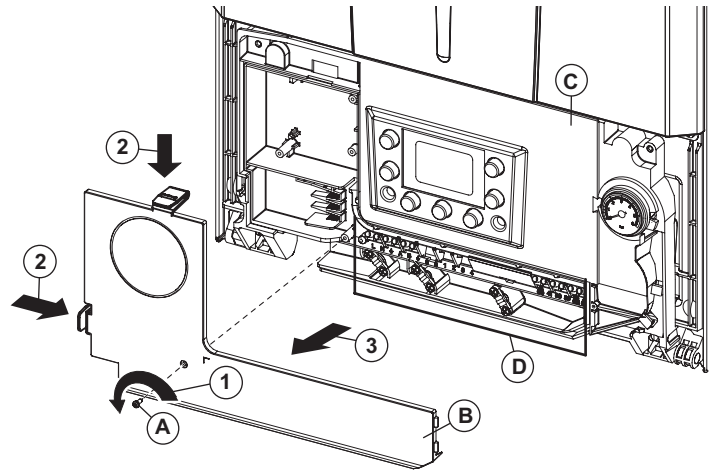

Fig. 4.14
4.10 CONNECT THE MAINS SUPPLY - Figs. 4.14 and 4.15
1. Remove the one screw 'A' in Fig. 4.14.